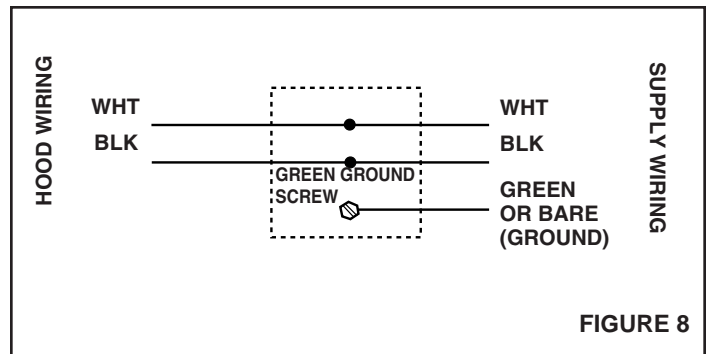

FIGURE 8
2. **Refer to FIGURE 8.** Make wiring connections.